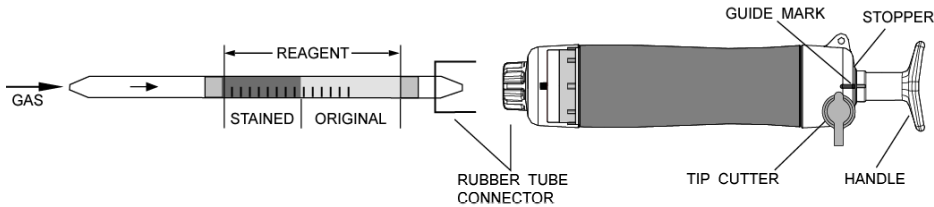

Fig.1
- ② Insert the detector tube into aspirating pump securely as shown in Fig.1. (Arrow mark shall point to the pump.)
- ③ Align the guide marks on the shaft and stopper of the aspirating pump.
- ④ Pull the pump handle at full stroke until it locks and wait for 1 minute or until the completion of sampling is confirmed with the flow indicator of the pump (See descriptions about the flow indicator in the instructions of the pump).
- ⑤ On completion of sampling, read the scale at the maximum point of the stained layer.
- ⑥ When the concentration is below the scale range, multiple pump strokes can be used to determine these lower concentrations.